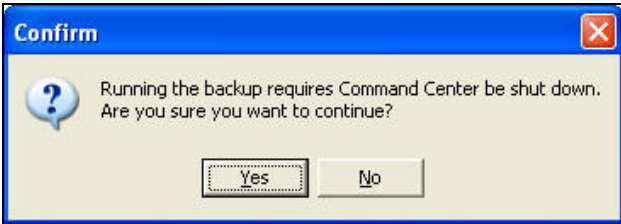

Figure 31.2.2
- If you are going to perform a backup or restore function you must select **Yes** (Figure 31.2.2).